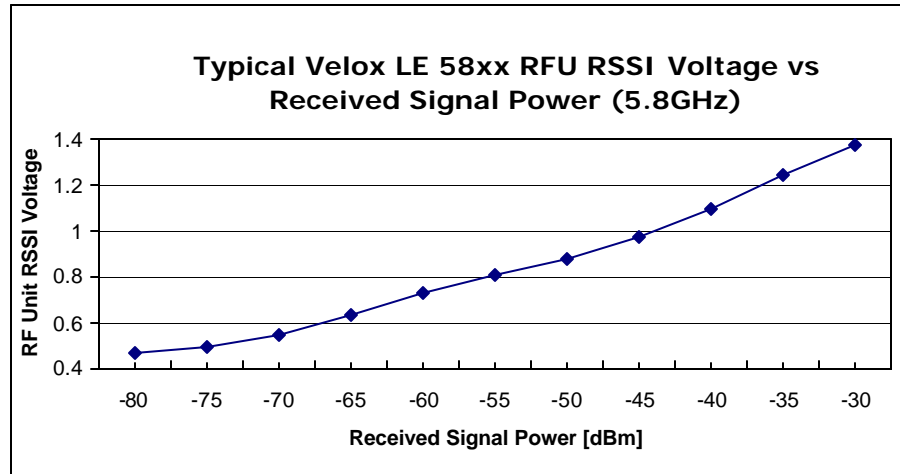
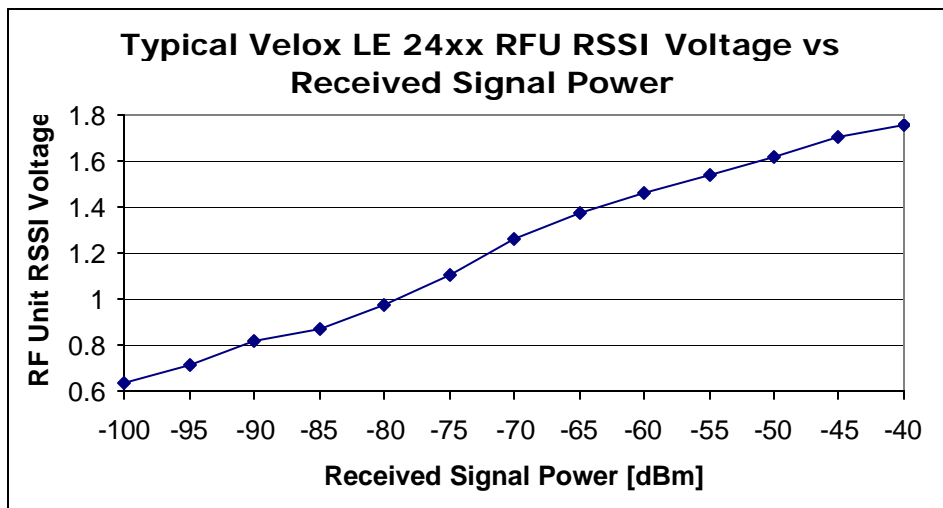
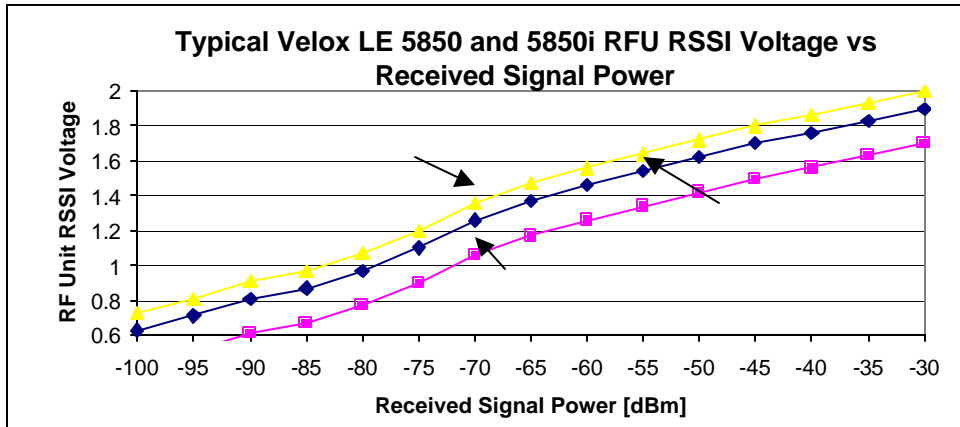
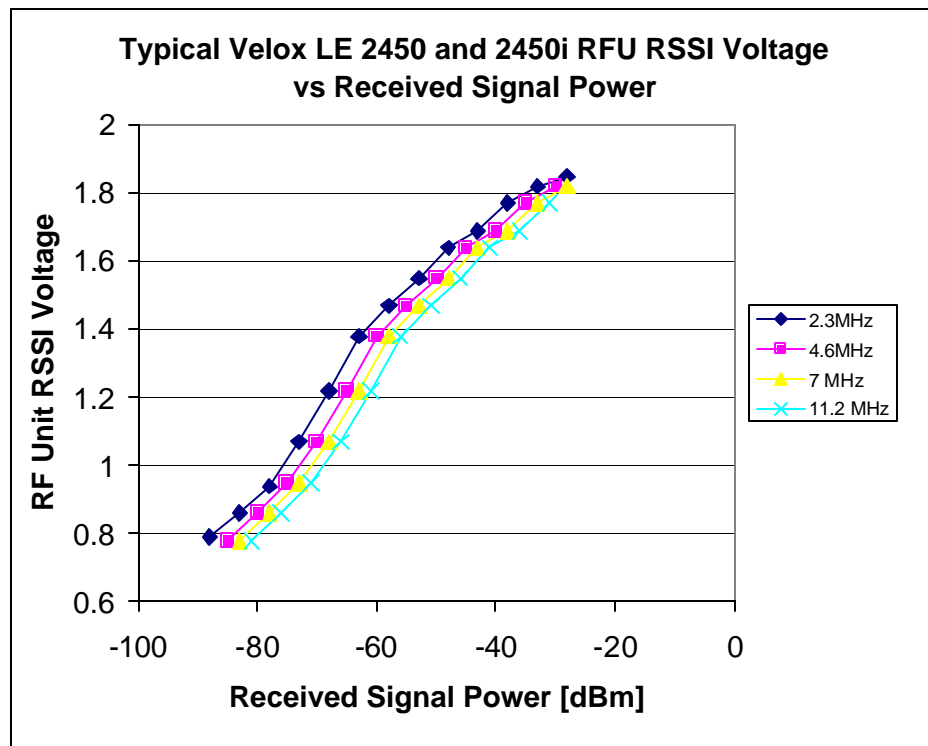

Figure 4-8. Typical Velox LE 5810 and Velox LE 5810i RSSI Voltage versus Received Signal Power
Figure 4-9. Typical Velox LE 2410 and Velox LE 2410i RFU RSSI Voltage as a function of RF input power level
Figure 4-10. Typical Velox LE 5850 and 5850i RFU RSSI Voltage as a Function of RF Input Power Level (note the different bandwidths)
Figure 4-11. Typical Velox LE 2450 and 2450i RFU RSSI Voltage as a Function of RF Input Power Level (note the different bandwidths)
3. Note the RSSI level and refer to Figure 4-8, Figure 4-9 and Figure 4-10 below for received power level.
From the Figure 4-8 to Figure 4-11: